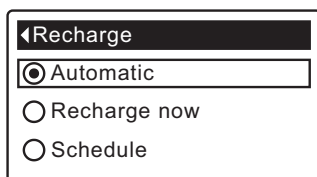

FIG. 34
3. Press the OK/MENU button to display the Recharge menu (See Figure 34).
4. If the desired option already has a black dot next to it (See Figure 34), go to Step 5. Otherwise, press the DOWN ▼ or UP ▲ buttons to scroll to the desired option, then press OK/MENU to choose it.